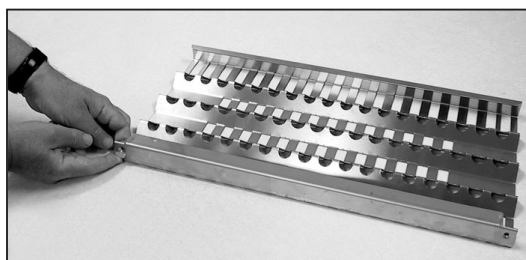

FIG.12
2. Unlock radiant end cap by pushing it up with two fingers (Fig. 12).